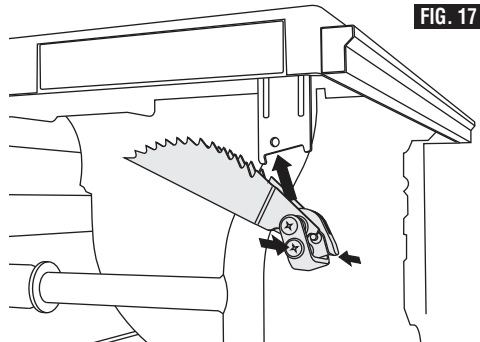

FIG. 17
2. Attach the Anti-Kickback Device to the hanging bracket in the same manner that it attaches to the Riving Knife (Fig. 17). For ease of installation; extend the table extension (fig. 42).